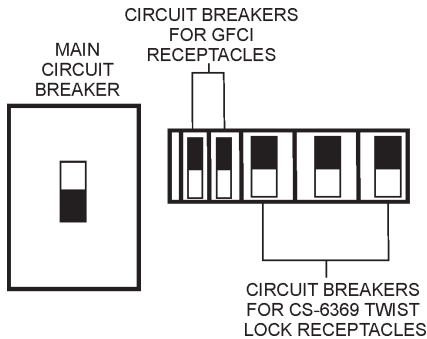

Figure 69. Main, Aux. and GFCI Circuit Breakers (OFF)
1. Place both the **MAIN**, **GFCI** and **LOAD** circuit breakers (Figure 69) to the "OFF position".